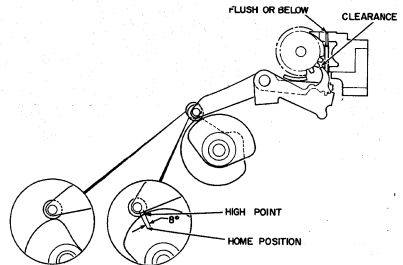

Figure 5
9. Loosen the setscrews on the interposer/feed cam cluster and, with the clutch latched, set the cluster so the feed cam roller is just onto the high dwell and the interposer cam roller is started down the very slight intermediate high dwell (Figure 5) and tighten the setscrews.